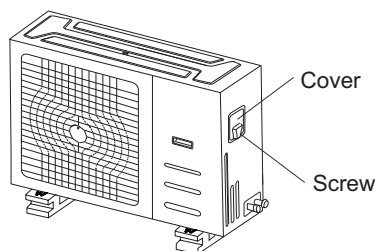

Fig. 10.1
- Remove the electric cover of the outdoor unit. If there is no cover on the outdoor unit, disassemble the bolts from the maintenance board and remove the protection board. (See Fig. 10.1, 10.2)